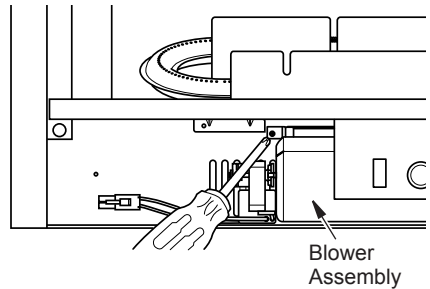

Figure 9 - Installing Blower Assembly
4. Attach blower with M4.0X8 screws (CC), after manually installing it into slots, (see Figure 9).